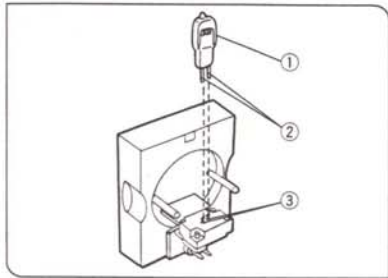

Fig. 1
(Figs. 1,2)
1. Holding the bulb ① with gloves or a piece of gauze, insert the bulb pins ② into the pin holes ③. (Fig. 1)